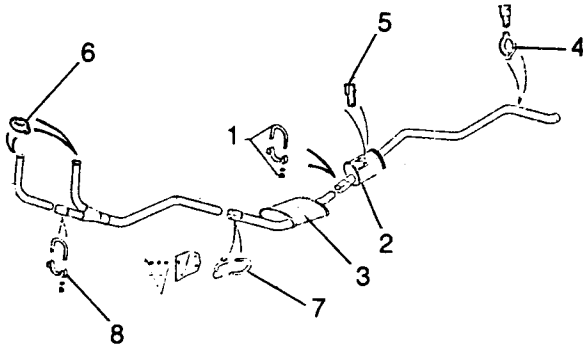

Fig F3.6
- (2) Refer to Fig F3.6. Remove the U-bolt, spring washers and nuts (1) securing the rear silencer assembly (2) to the intermediate silencer (3).
- (3) Remove the tail pipe support bracket (4).
- (4) Disconnect the securing strap (5) and remove the rear silencer and tail pipe.
- (5) Support the remainder of the exhaust system.
- (6) Remove the clamps (6) to release both downpipes from the exhaust manifold.
- (7) Remove the U-bolt (7) securing the downpipe to the mounting bracket.
- (8) Remove the intermediate silencer and downpipes.
- (9) Undo the nuts, remove the U-bolt (8) holding the front downpipe to the intermediate pipe and separate the pipes.